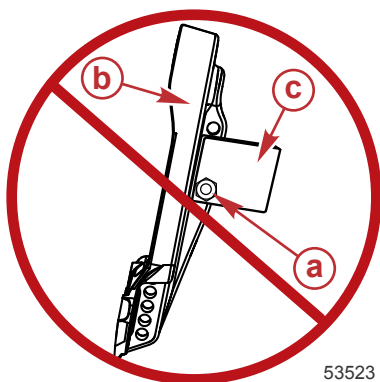

Figure 3
2. Do not attach an accessory to the boat by use of the engine mounting hardware. Refer to Figure 3.